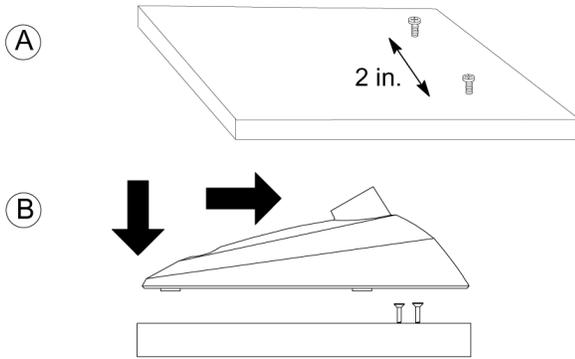

FIGURE 1: SECURING THE A412B TO A MOUNTING SURFACE
1. Install two No. 6 wood screws, two inches apart, on the mounting surface (see Figure 1, diagram A).
2. Place the key holes over the screw heads and push the microphone into position. Adjust the height of the screws as necessary to secure the microphone (see Figure 1, diagram B).